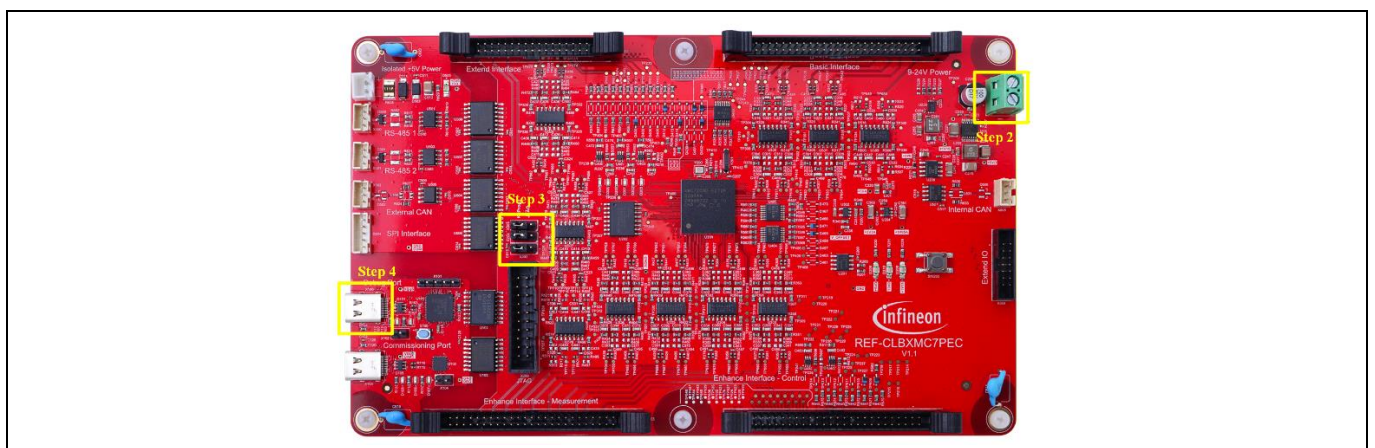

Figure 67 REF-CLBXM7PEC debug configuration
3. Add three jumper headers as shown in Figure 67.